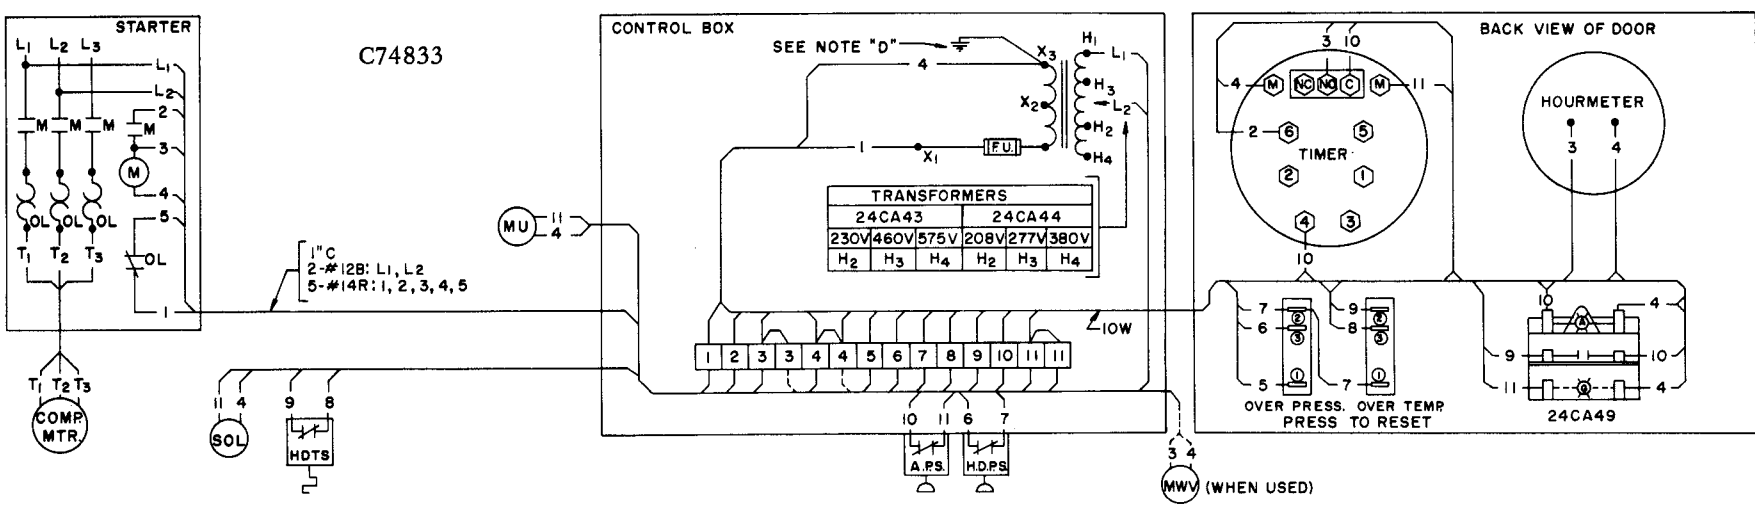

FIGURE 12-2. - WIRING DIAGRAM FOR UNIT WITH DUOMATIC CONTROL SYSTEM
**Electrical Wiring** – Figure 12-2 is the wiring diagram for the unit with Duomatic Control system.